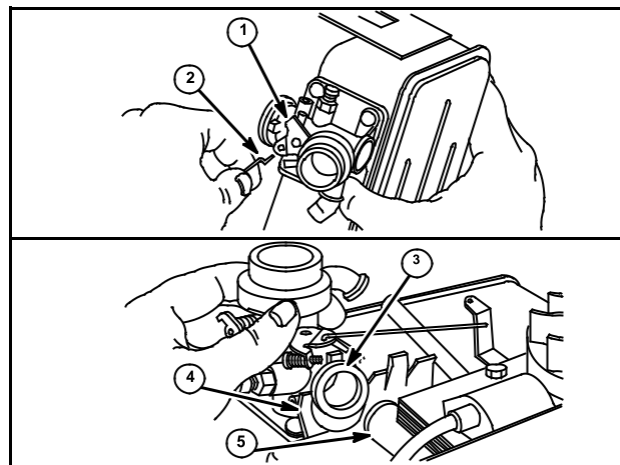

Fig. 16
3. Slip carburetor over notch in cylinder shield (4) and away from intake manifold (5), and seal (3), Fig. 16. Rotate carburetor and tank assembly to disconnect governor link (2) from throttle lever (1).